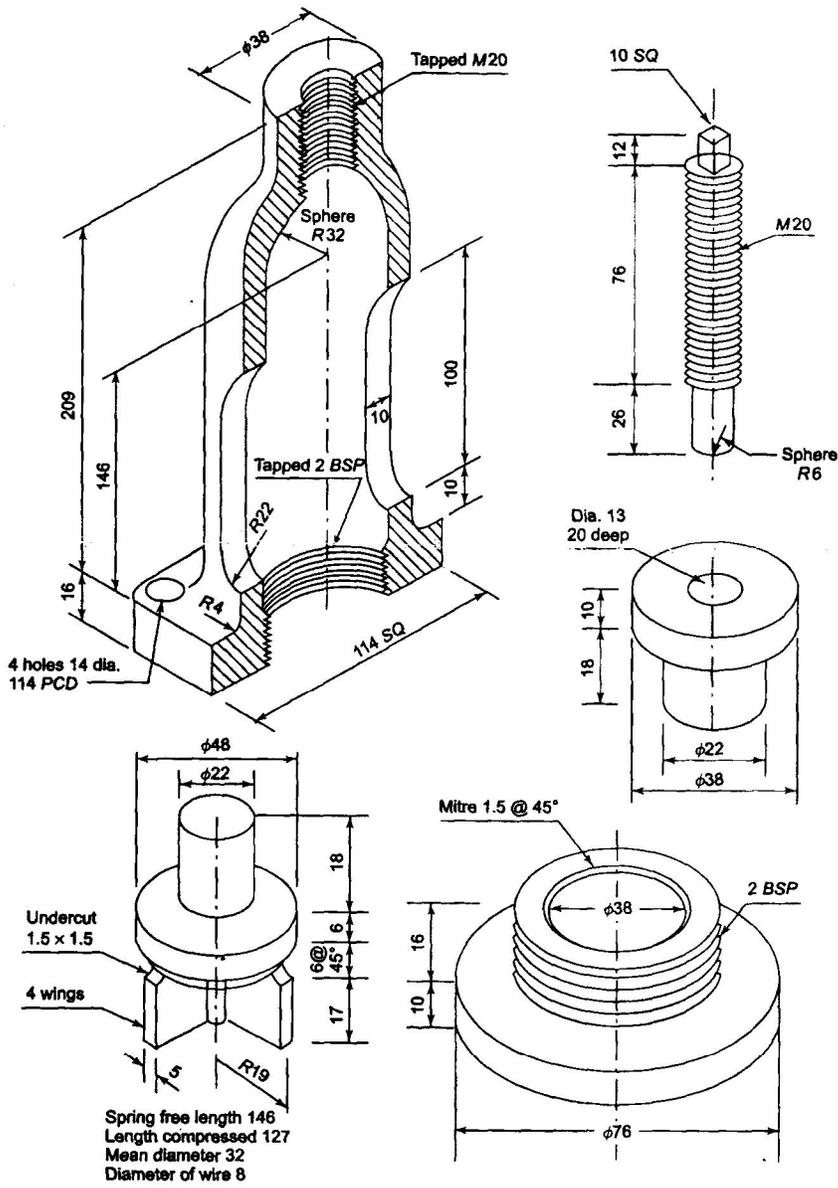

Figure 2 Cylinder relief valve
14. Figure 2 shows the details of Cylinder relief valve. Draw the assembled front view in full section.